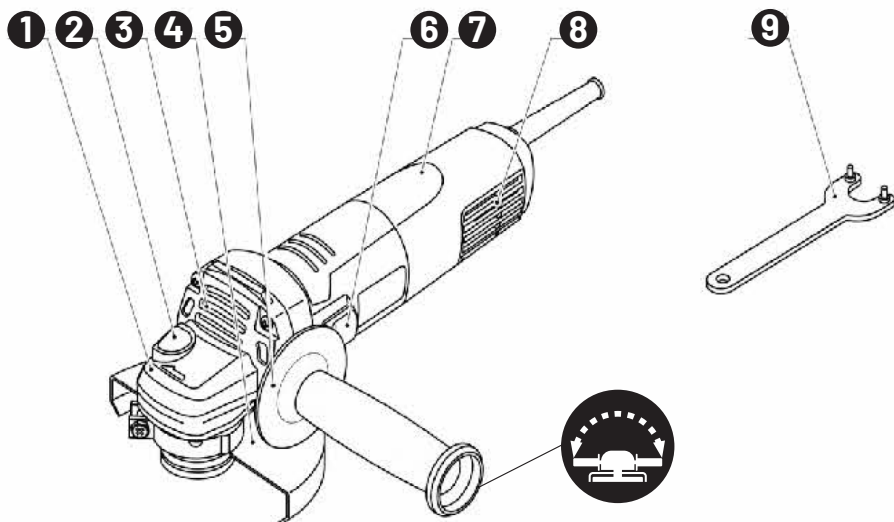

FIG.1
Additional handle (see fig. 1)
- Always use the additional handle(5) when operating the tool.
- To mount or dismount the handle, follow the procedure shown in fig. 1.